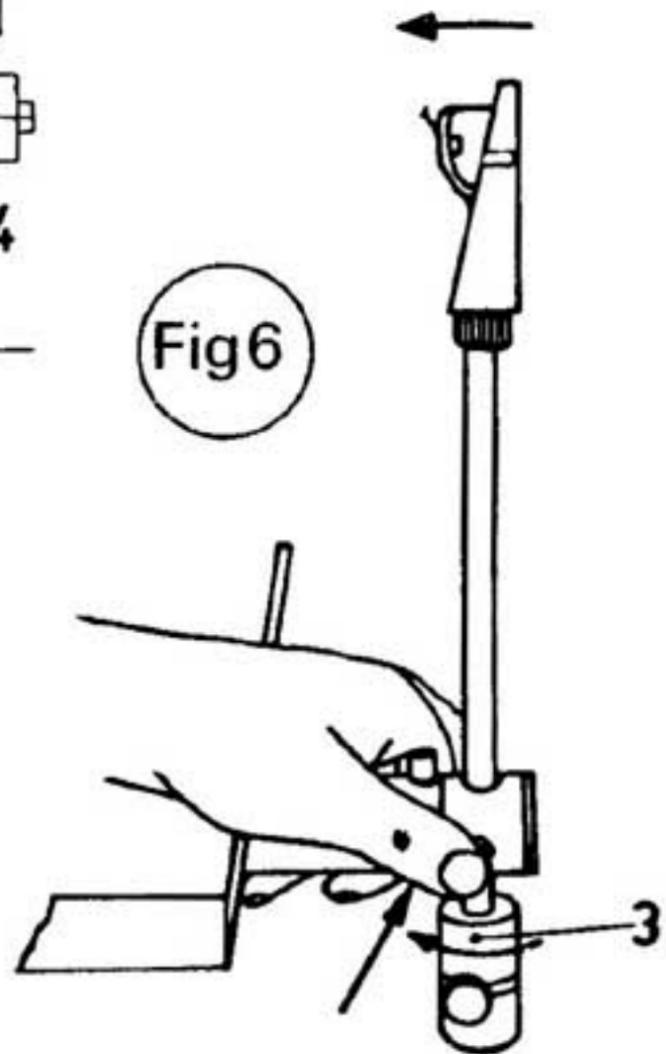

Fig 6
- 2 Place the pick-up spindle against the edge of the table (see Fig 6) turn the front adjustment ring (3) until the pick-up arm remains stationary in the vertical position, as shown in Fig 6. Hold the pick-arm spindle securely so that it does not move.